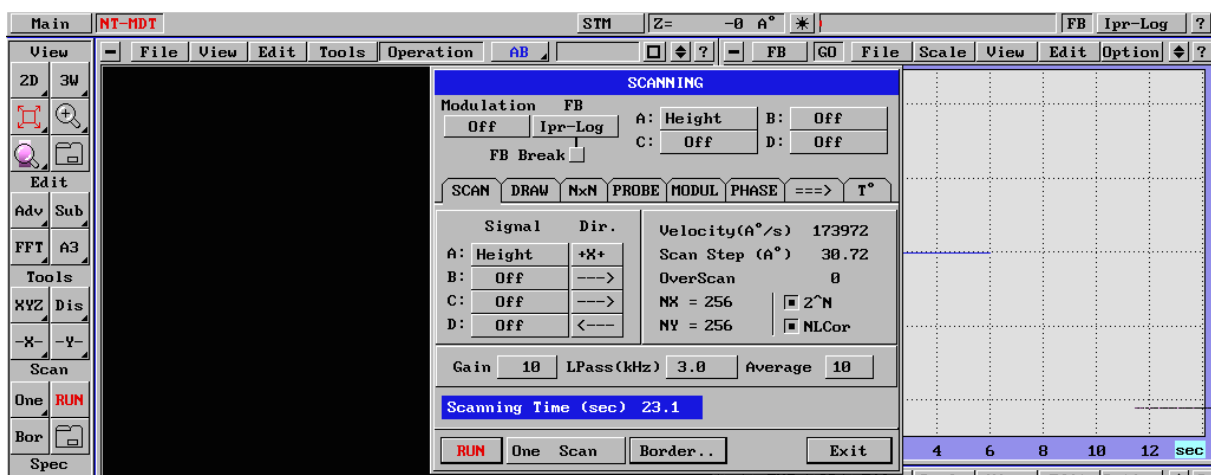

Fig. 57
- Velocity = 200000 (Fig. 57)
- Step (A) - 20 - 40 (Fig. 57)
- NX xNY - 256 ÷ 256 (Fig. 57)
- NL Corr - on (Fig. 57)
- A: Scan dir - +X+ (Fig. 57)
- Gain = 10 (Fig. 57)
- Lpass(kHz) = 3 (Fig. 57)
- Average = 10 (Fig. 57)